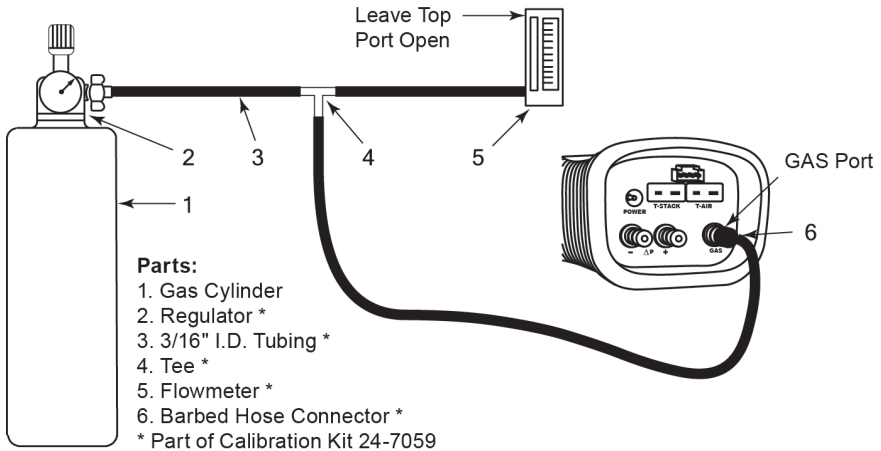

Figure 6-12. Gas Sensor Calibration Equipment
3. Attach a 500 ppm CO cylinder to the regulator of the calibration fixture shown in Figure 6-12 on page 80.
3. Attach a 100 ppm SO₂ cylinder to the regulator of the calibration fixture shown in Figure 6-12 on page 80.
3. Attach a 250 ppm NO cylinder to the regulator of the calibration fixture shown in Figure 6-12 on page 80.
3. Attach a 100 ppm NO₂ cylinder to the regulator of the calibration fixture shown in Figure 6-12 on page 80.
3. Attach a 4,000 ppm CO cylinder to the regulator of the calibration fixture shown in Figure 6-12.